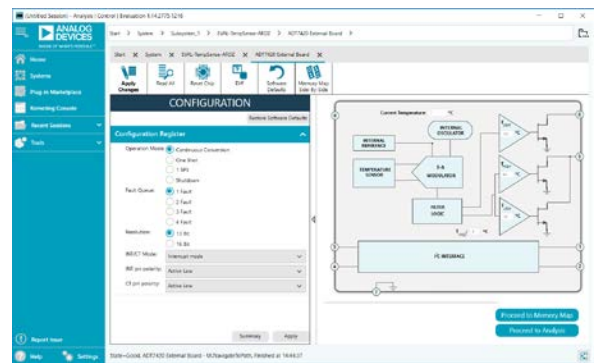

Figure 9. Chip Block Diagram View for the ADT7420
5. Access the chip block diagram, which shows device functionality, by double clicking any of the evaluation board sensor chips (see Figure 9). This view is a simple representation of evaluation board functionality.